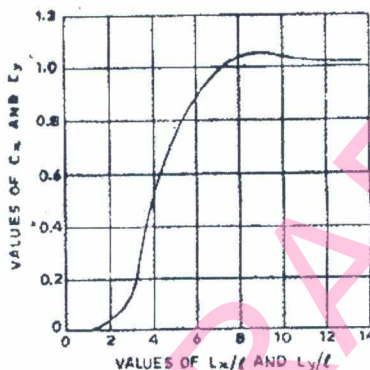

Fig. Q5 (b)
- b. Determine the warping stresses at interior, edge and corner regions in a 25 cm thick concrete pavement with transverse joints at 11 m intervals and longitudinal joints at 3.6 m intervals. The modulus of subgrade reaction (K) is 0.069 N/mm^3 . Assume temperature differential for day conditions to be 0.6°C per cm slab thickness. Assume radius of loaded area as 15 cm for computing warping stress at the corner. Take $e = 10 \times 10^{-6}$ per $^\circ\text{C}$, $E = 0.3 \times 10^5 \text{ N/mm}^2$ and $\mu = 0.15$. Use the chart in Fig. Q5 (b) (10 Marks)